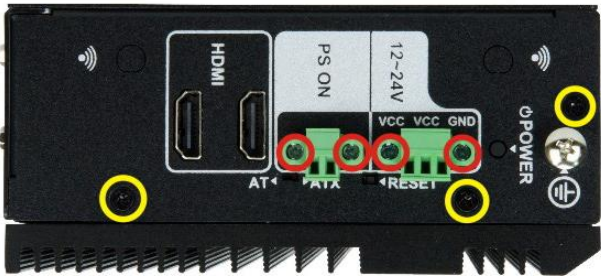

Figure 3-8: Terminal Block Screws and Top Panel Bracket Screws
**Step 3:** Remove the top panel bracket. Loosen the screws (circled in red) to remove the two terminal block covers. Remove the three retention screws circled in yellow. See Figure 3-8.